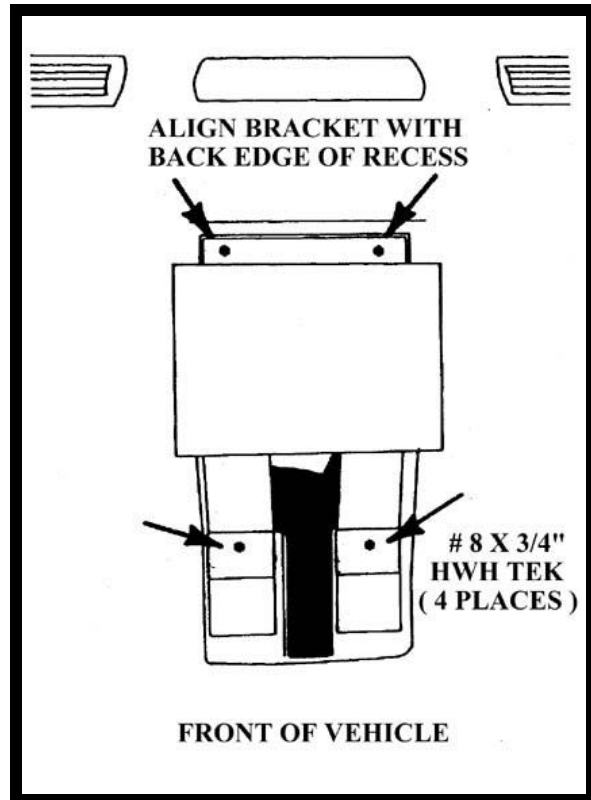

FIGURE 8
7. Secure bracket to sheetmetal frame using four (4) # 8 x 3/4" HWH TEKS screws (item 1 pg 2). Secure O.E.M. ground wire (if applicable) using one of the screws. See Figure 8.